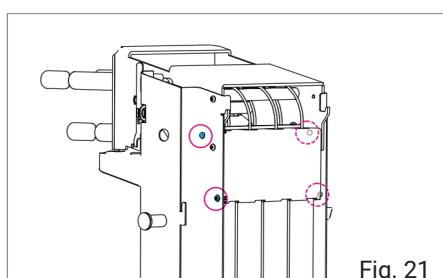

Fig. 21
- 5 Now loosen the three M6 pan-head screws from the middle section (22) and push the upper tube pan approx. 50 mm upwards. Make sure that the guide tubes still remain in the guide of the tube pan. Now you have direct access to the guide tubes (Fig. 21).